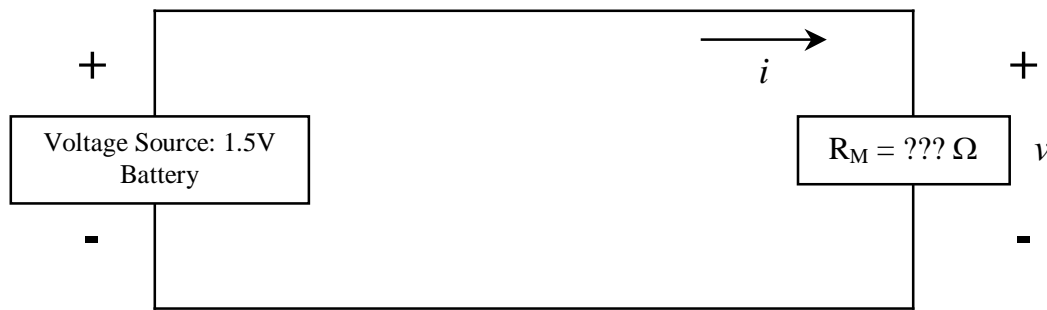

Figure P2-1 - Circuit for Procedure 2.a.
- (2 points)** Draw the circuit schematic diagram for the circuit in Figure P2-1 using standard symbols for resistor and battery.
- (1 points)** Construct the circuit in Figure P2-1 on your breadboard with  $R_M$  being the mystery resistor. See below for construction hints. Measure the voltage  $v$  across  $R_M$ . Record the value.